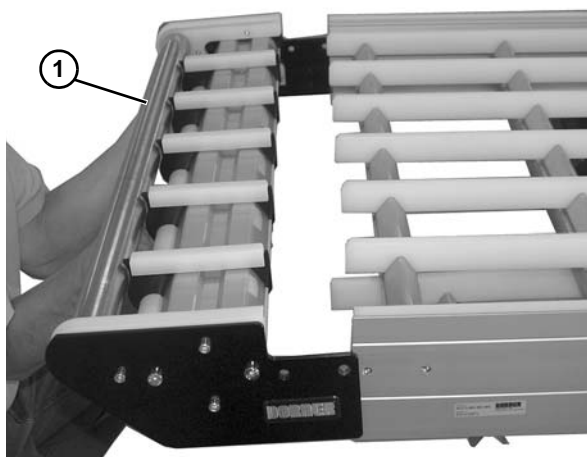

Figure 72
3. Remove idler tail assembly (**Figure 72, item 1**).